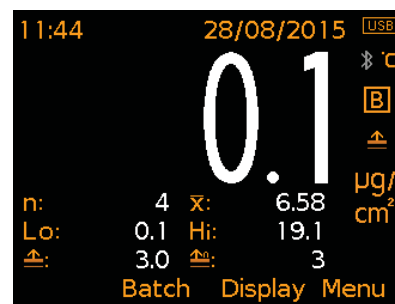

Fig. 3: Readings x1 & Selected Statistics
- Selected Statistics** (Fig. 3); Up to 8 statistical values can be displayed, as defined by the user, via Display/Statistics/Select Statistics. Select from: